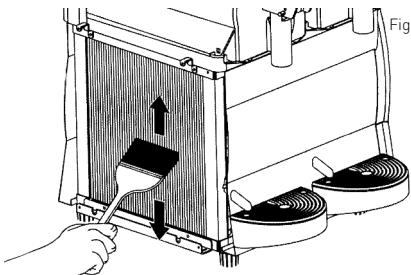

Fig. 30
- 4) Use a dry brush (not supplied) to remove the dust that has built up over time with use. (See Fig. 30)